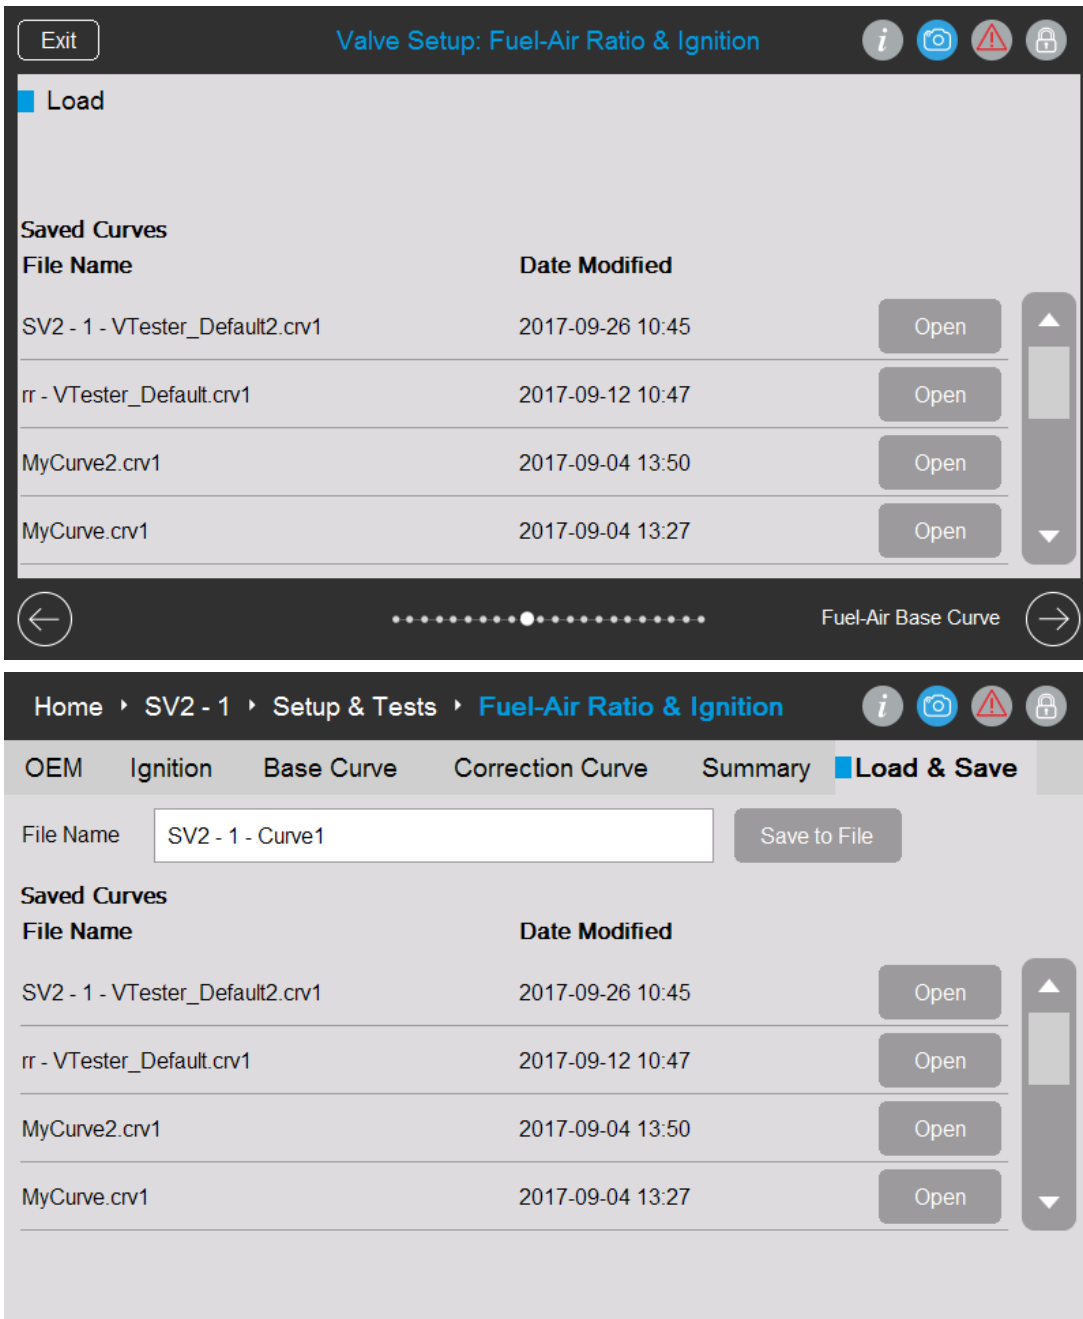
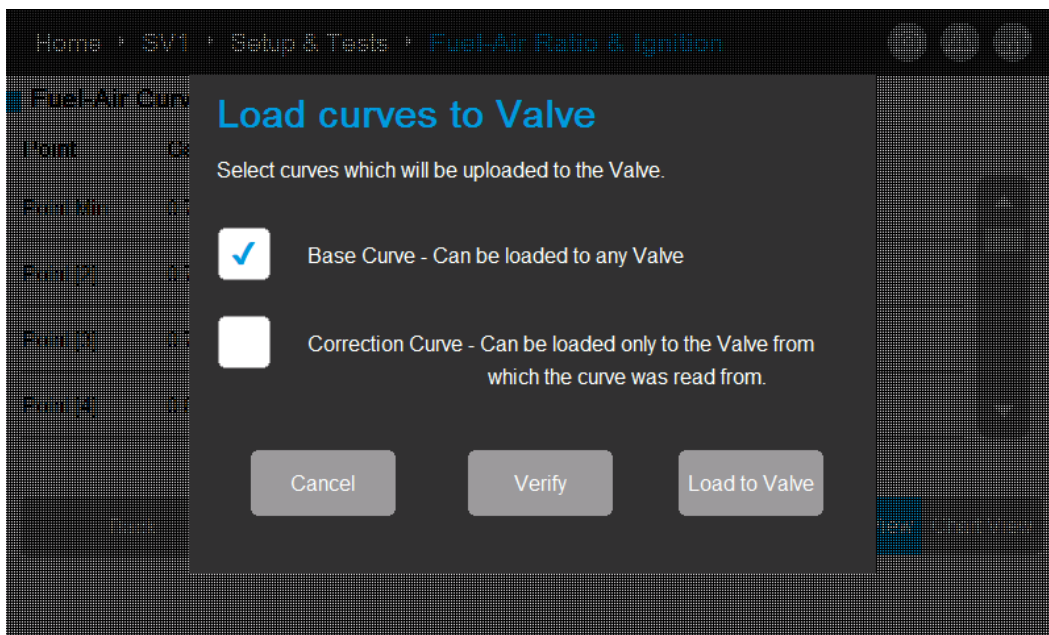

Fig. 54: Load Saved Curves.
Fig. 55: Load Saved Curves.
Refer to Fig. 54-Fig. 55. If there are saved fuel/air curve(s) on the connected HMI/PC Tool, the user may load one of them to use for the factory Base Curve initial settings.
Note that the Load & Save feature was designed mostly for adjusting the Base and Correction Curves as needed in the factory or field. This feature saves the Base Curve, Correction Curve and the extra commissioning data (if applicable). No other valve for fuel/air data is saved with this feature. To clone a valve configuration for use on a similar appliance, refer to the Valve Production Cloning section of this manual and Fig. 54.
- To load a saved curve, select Open next to the desired curve and follow the instructions on the screen (refer to Fig. 54).
Alternately, a Base Curve which was defined on a similar appliance can be uploaded to the system using the Load & Save feature of the HMI or PC Tools. Refer to the Load Saved Curves section of this manual or Fig. 54-Fig. 55.